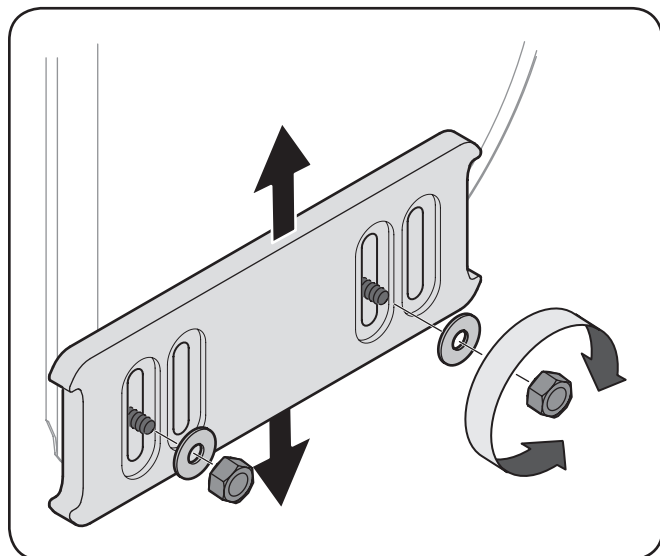

Figure 3-12
1. Loosen the four hex nuts (two on each side) and carriage bolts. Move skid shoes to desired position. See Figure 3-12.
NOTE: The skid shoes on your snow thrower may look slightly different (and have different hardware) than the ones shown in Figure 3-12.